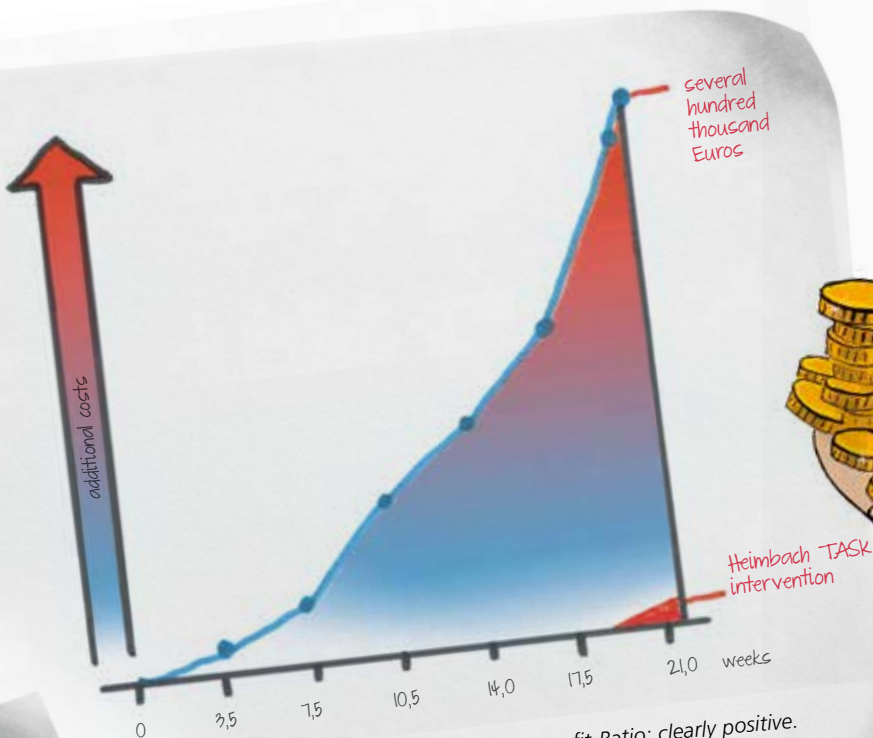

Fig. 3: Cost-Benefit-Ratio: clearly positive.
**several hundred thousand Euros!** As figure 3 shows graphically, clothing costs had increased dramatically. Furthermore unnecessary downtime was costing time and money as well as loss of production – let alone rejects and complaints from printers. All this is now in the past – and this is thanks to an investment that is hardly worth mentioning when compared to the result: **Our customer had to pay less than 3,000 Euros for materials and repair!**